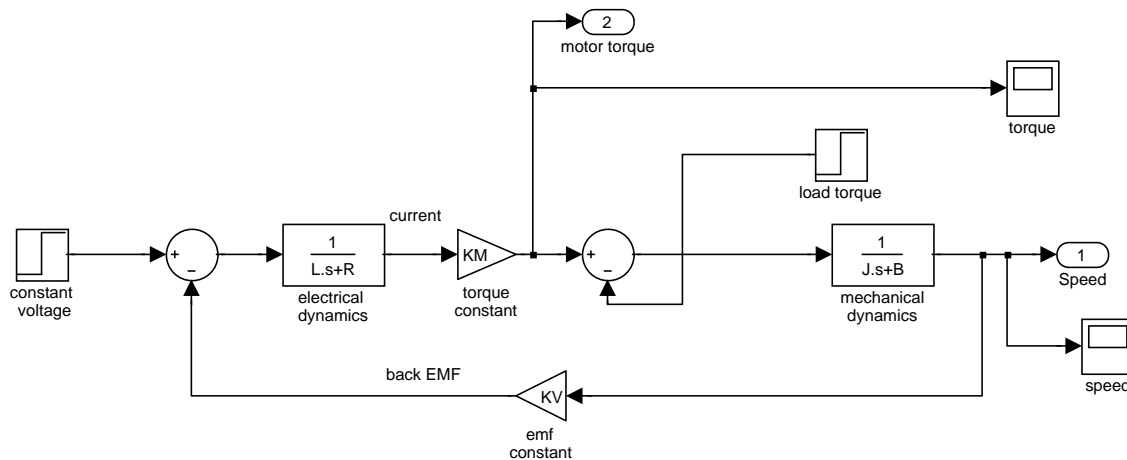

Figure 2: DC Motor with Load Torque Disturbance
- (d) Develop a SIMULINK model of this motor, as shown in Figure 2. Use a “step” block to generate the constant voltage input. Use your model, in conjunction with the Matlab file prob2d\_ps3\_newbox.m